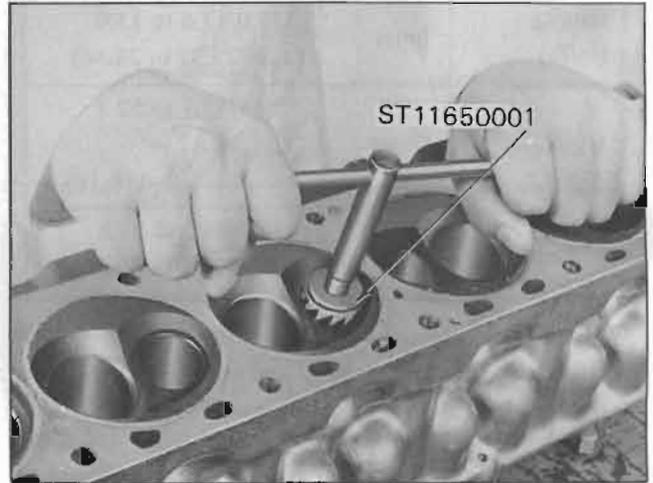

Fig. EM-35 Valve seat correction
- The valve seats newly fitted should be cut or ground to the specified dimensions as shown in Figure EM-35 with the special tool "Valve Seat Cutter Set ST11650001."